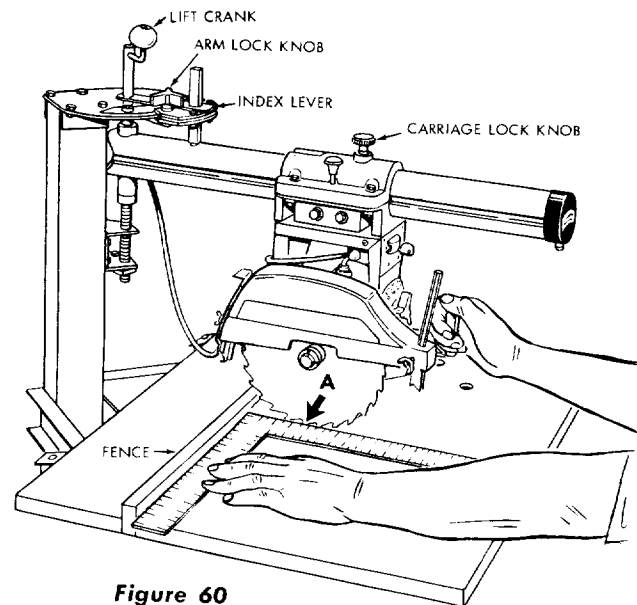

Figure 60
- (1) Loosen the arm lock knob (figure 60), raise the index lever and index the radial arm at 0° (crosscut) position. Tighten the arm lock knob.
- (2) Lower the saw blade, with the lift crank (figure 60) until the blade just clears the front table surface.
- (3) Loosen the carriage lock knob and leave it loose for this adjustment.
- (4) Move the carriage rearward until the saw blade is just forward of the fence.
- (5) Place a framing square against the fence and one tooth of the saw blade, as shown in figure 60.
- (6) Mark this tooth with a soft pencil as shown at "A", figure 60.
- (7) Pull the carriage forward as in crosscutting.
- (8) If the marked tooth does not follow the square from front to rear, loosen the screw in the 0° miter index stop and rotate the eccentric until the narrowest portion of the eccentric is next to the index lever.
- (9) Loosen the arm lock knob and, with the square in position as shown in figure 60, shift the arm carefully to right or left until the saw blade follows the square throughout its full travel. While holding the arm securely in this position, tighten the arm lock knob.
- (11) Loosen the arm lock knob and move the radial arm a short distance to the right. Then move it back against the 0° index stop, tighten the arm lock knob and re-check with the square, as shown in figure 60. If any slight correction is still required, adjust in small increments (checking after each adjustment) until the crosscut travel is correct.